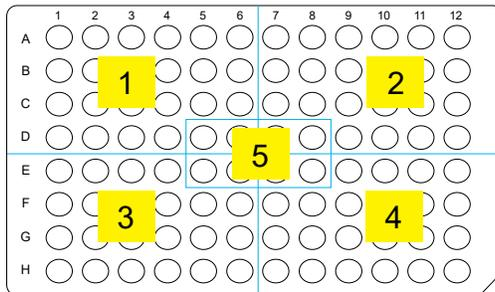

Figure 5 The 5 plate sectors.
- Vortex deepwell plates for 5 seconds in each of the 5 sectors. See the sectors in Figure 5.